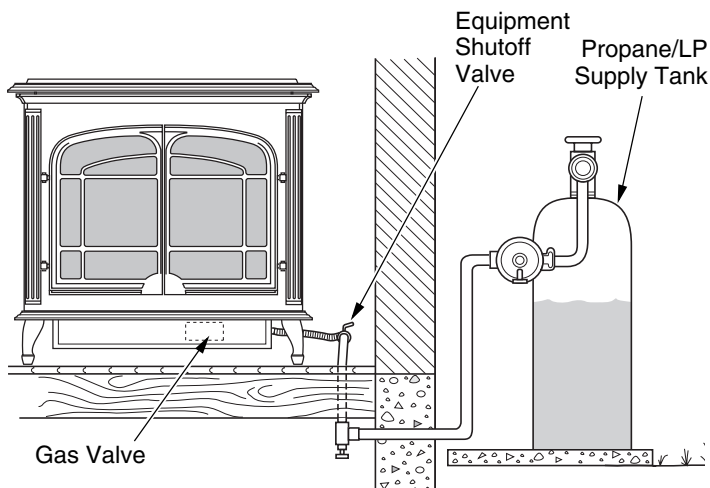
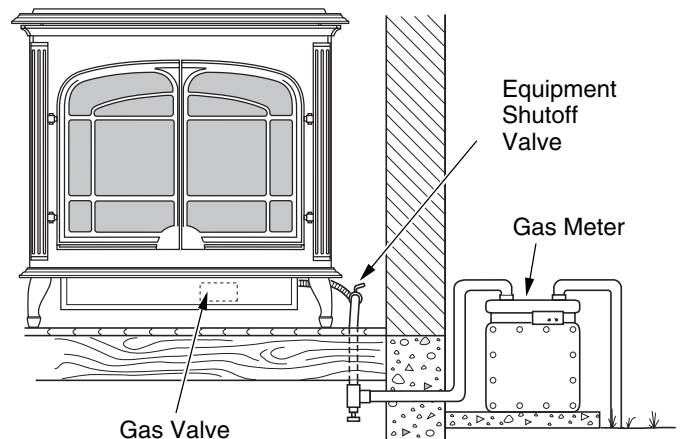

Figure 43 - Checking Gas Joints for Propane/LP Gas Burner System (Oxford™ Model Shown)
Figure 44 - Checking Gas Joints for Natural Gas Burner System (Oxford™ Model Shown)
3. Check all joints from propane/LP supply tank or gas meter to equipment shutoff valve (see Figure 43 for propane/LP or Figure 44 for natural). Apply noncorrosive leak test solution to all gas joints. Bubbles forming show a leak. Correct all leaks at once.
4. Check all joints from equipment shutoff valve to thermostatic gas valve (see Figure 43 for propane/LP or Figure 44 for natural). Apply noncorrosive leak detection solution to all gas joints. Bubbles forming show a leak. Correct all leaks at once.